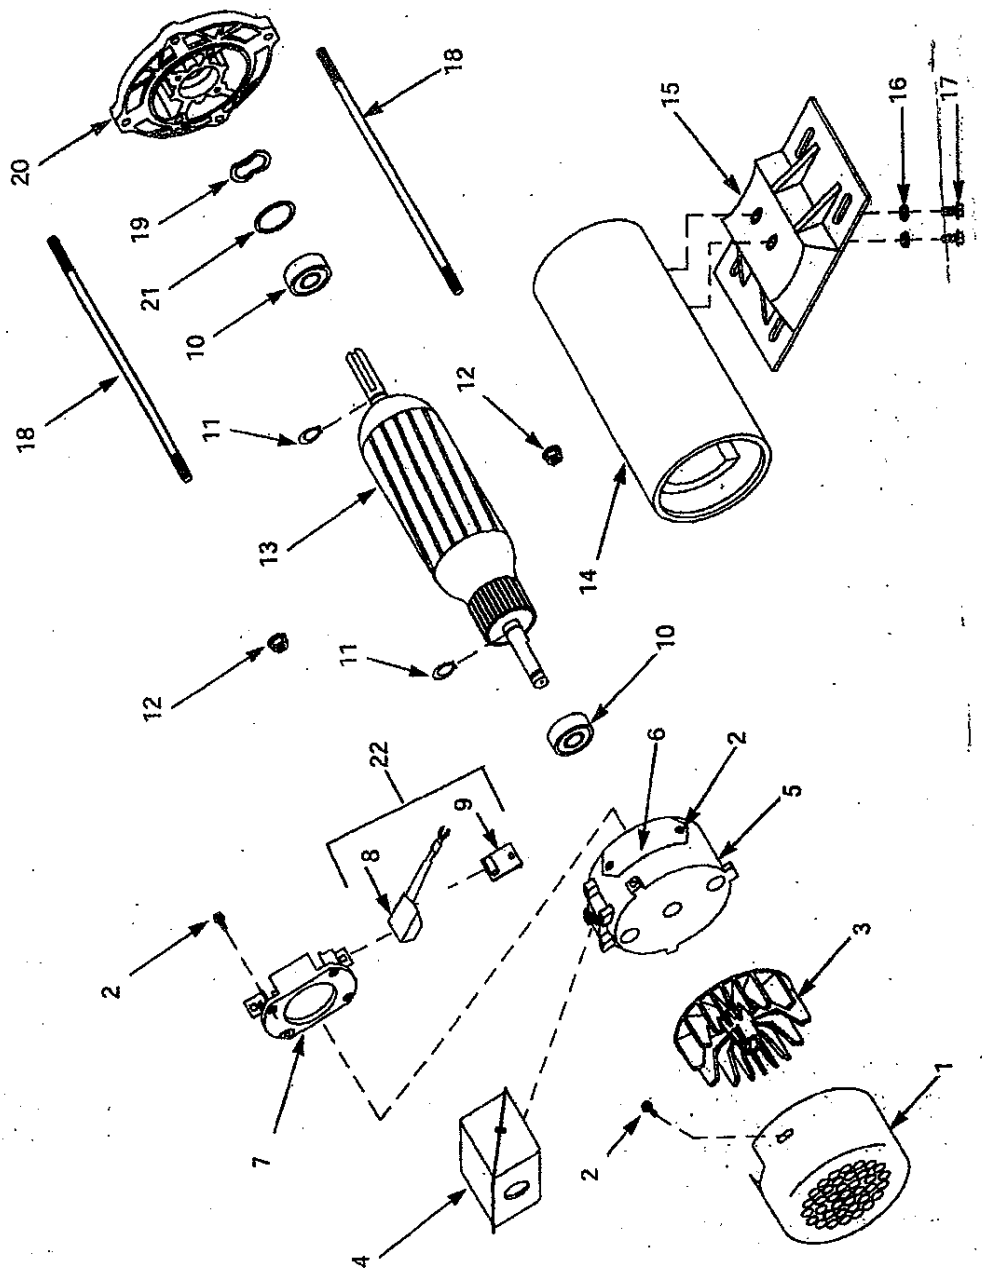

Figure 10 - Replacement Parts Illustration
2. Refer to Figure 10, remove the four hex head screws (Ref. No. 2) from brush cover (Ref. No. 6).